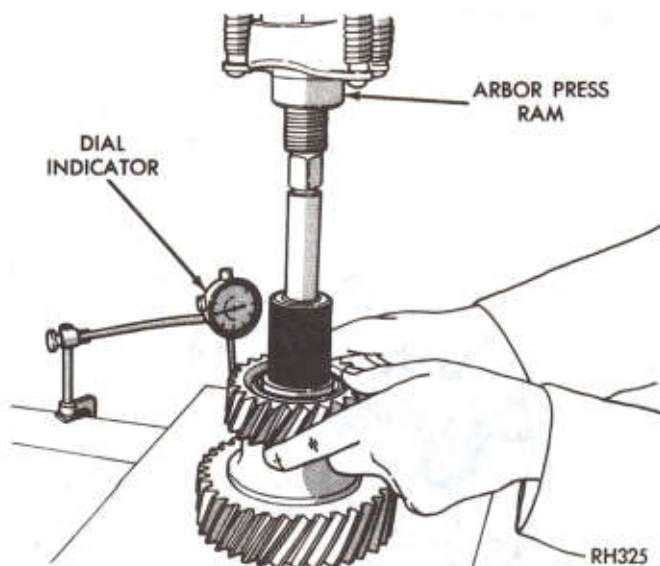

Fig. 9—Press in Bearing Caps and Check End Play
(1) Using arbor or hydraulic press, install two bearing cups in idler gear (Fig. 9).
(2) Assemble the two bearing cones, spacer, shims and idler gear on a dummy shaft (Tool DD1272) with bore up. End play should be .000 to .002 inch loose (Fig. 9).
(3) Press the two rail seals into case. These seals are wiper type and should be installed with lip outward.
(4) Install idler gear assembly with dummy shaft